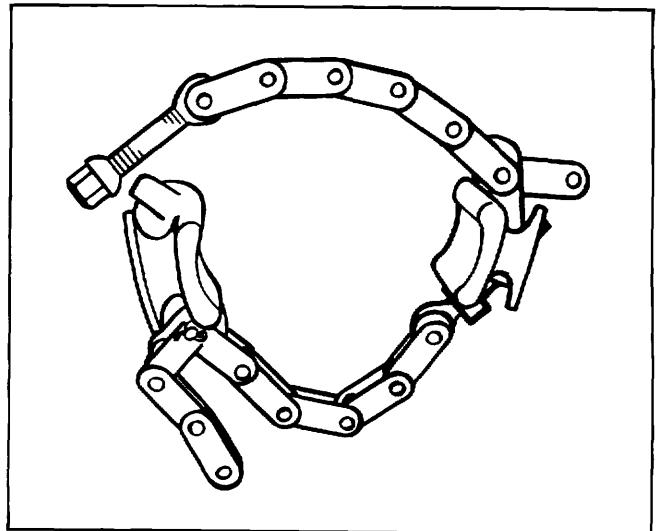

Figure 5. Lifting Elevators
*Steel lifting elevators of approved type and proper size (See Figure 5)